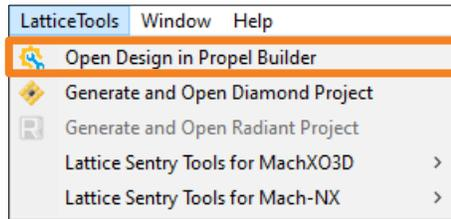

Figure 3.9. LatticeTools Menu
- Choose **LatticeTools** > **Open Design in Propel Builder** (Figure 3.9).